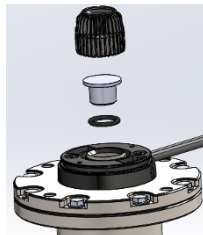

Figure 3. Pressure Test Cap Installation
Step 2: Perform a Pressure Test (See Figure 3). Insert pressure test cap in top of chamber & screw on top gland nut. Turn on pump and observe for any leaks.